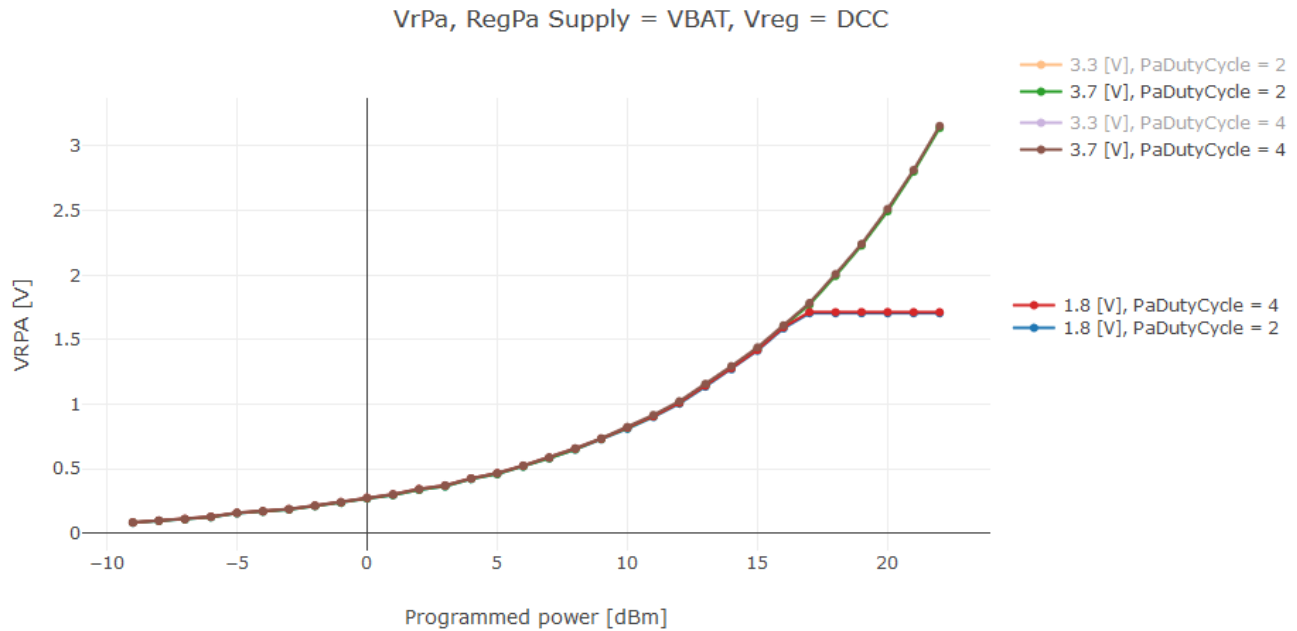

Figure 9-4: High Power PA VR\_PA Voltage vs. TxPower
The VR\_PA variation over the programmed power TxPower for different supply voltages and duty cycle (PaDutyCycle) conditions is depicted in Figure 9-4: High Power PA VR\_PA Voltage vs. TxPower below.
- For the +22dBm power setting, a VR\_PA of ~3.1V is required (refer to Figure 9-4). Therefore, given the 200mV drop-out of the PA regulator, the +22dBm output power can only be obtained from a 3.3V to 3.7V supply voltage range.